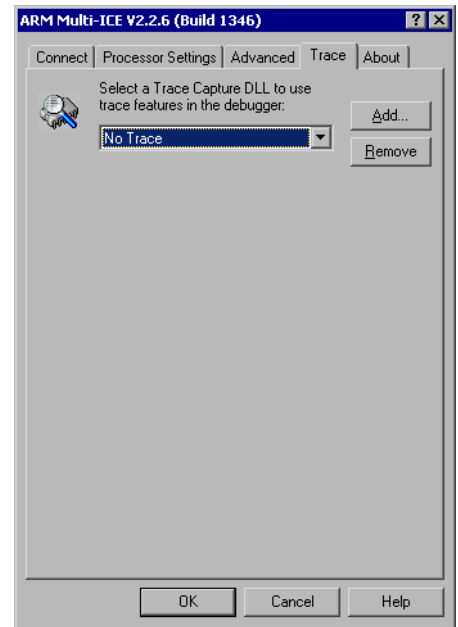

Figure B-3 Multi-ICE configuration dialog box showing the Trace tab
12. Click the **Trace** tab to make it visible (Figure B-3 on page B-5).